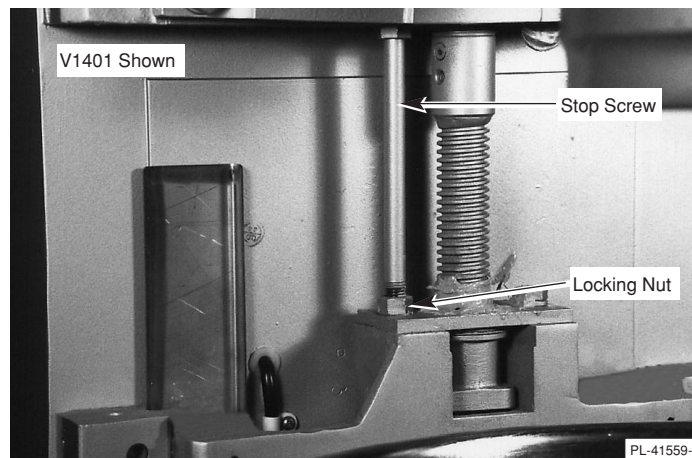

Fig. 7
- Loosen the Locking Nut on the Stop Screw (Fig. 7), turn the Stop Screw counterclockwise to increase the clearance or clockwise to decrease the clearance.